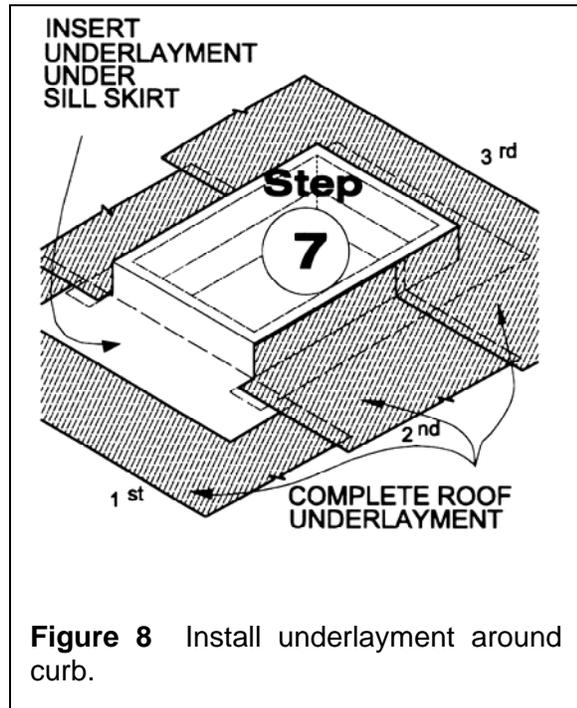

Figure 8 Install underlayment around curb.
Step 7. Complete installation of roof underlayment in shingle fashion. Tuck underlayment under skirt at sill. Continue to lay out the underlayment around the sides and head. Fold the underlayment up the curb at the sides and head (see Figure 8).